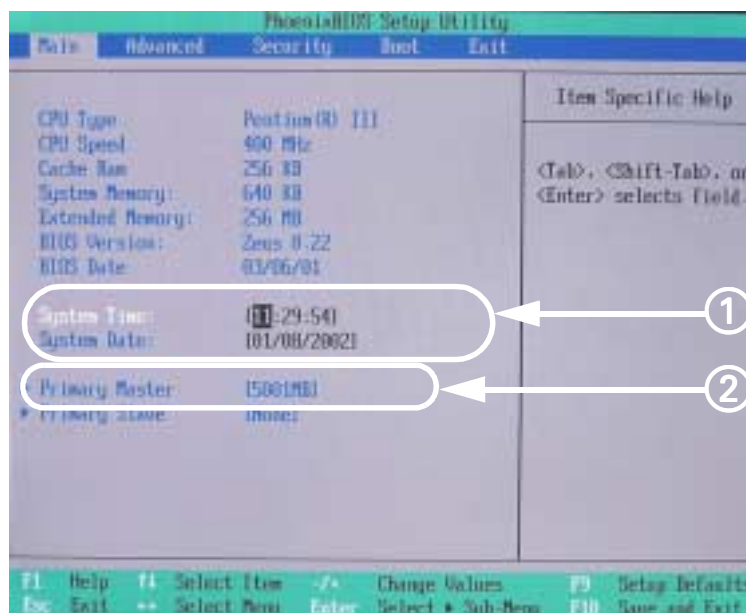

Figure 19-2 Main screen
8. Enter correct date/time (① in Figure 19-2) for clinical site, using arrow/number keys.
9. Verify correct "Primary Master" settings (see ② in Figure 19-2).